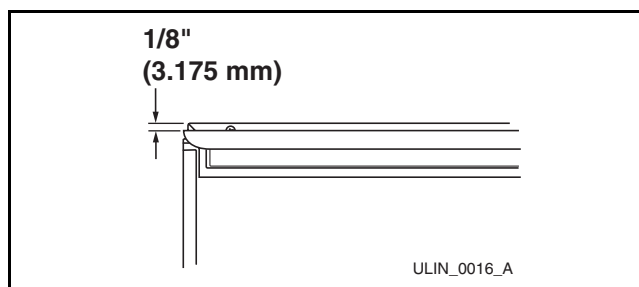

Figure 29
1. Compare the top edge of the door (opposite the hinges) to the top edge of the cabinet (**Figure 29**) and note the type (up or down) of adjustment needed.